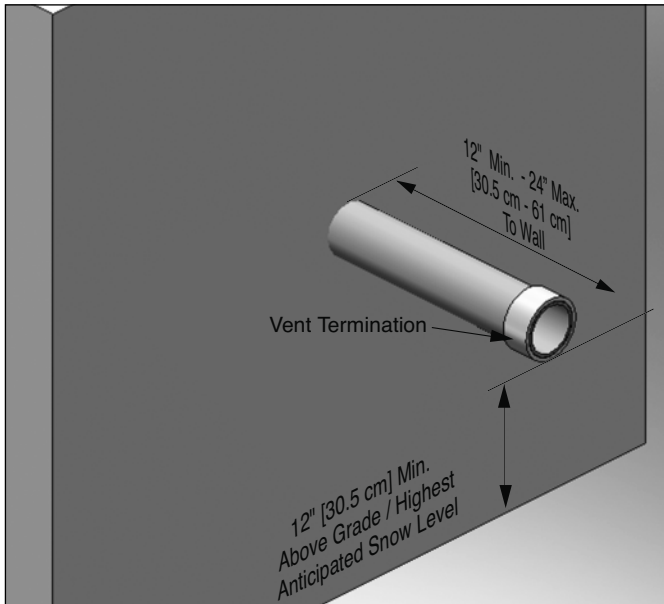
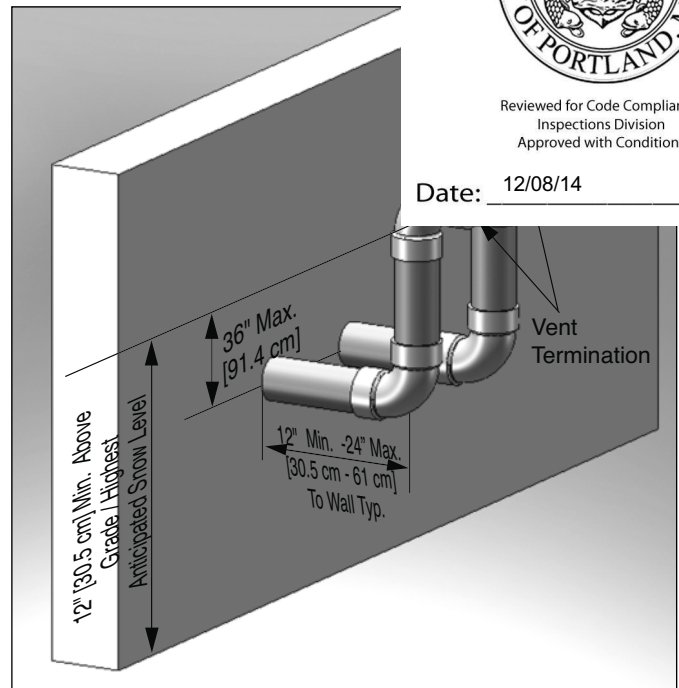

Fig. 26: Category IV - Sidewall Termination of Vent Pipe with Coupling Termination
Fig. 32: Category IV - Multiple Boiler Sidewall Vent Terminations
- Using a coupling as shown in Fig. 26 page 30.
Do not extend the vent pipe outside the sidewall beyond the dimensions shown in Figs. 26 through 31 pages 30 and 31. Extended exposure of the vent pipe could cause condensate to freeze and block the vent pipe.
- Locate the vent pipe penetration to provide minimum clearances as described in Figs. 26 through 31 pages 30 and 31.
2. The wall penetration of the vent should be a minimum 12" [30.5 cm] from the adjacent vent pipe of another boiler for installations in the U.S as shown Fig. 32. For installations in Canada, provide clearances as required by CAN/CSA B149.1.
Fig. 32 shows one option for vent terminations of multiple PRESTIGE boilers. Any vent termination option shown in Figs. 26 through 31 pages 30 and 31 can be used for multiple PRESTIGE boilers. The 12" [30.5 cm] minimum distance between centerlines of the vent piping must be maintained for any chosen option.
Reference Figs. 26 through 31 pages 30 and 31 for the configuration dimensions of the vent for each unit installed in a multiple installation.